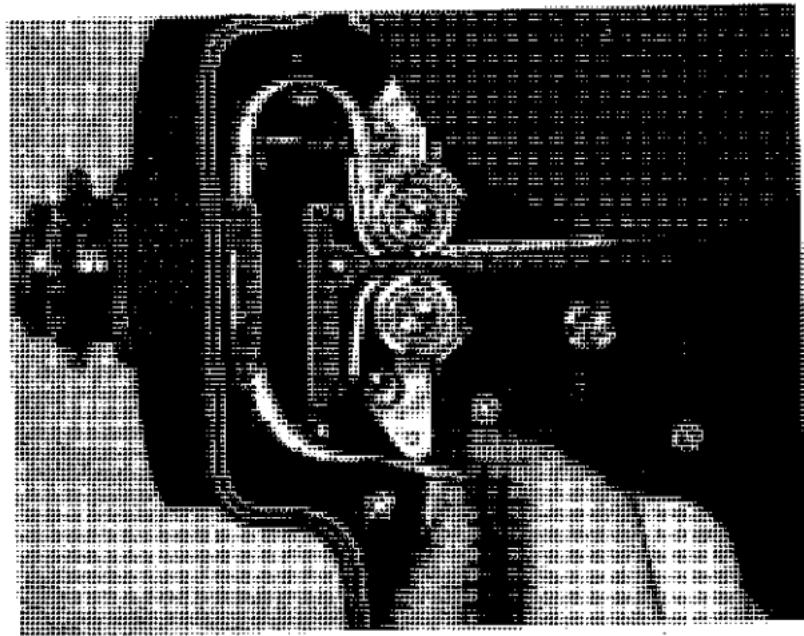

Figure 6
6. Place the leader in the film gate channel, as in Figure 6, leaving enough slack above to form the upper loop, the extreme top of which should be about  $\frac{1}{4}$  inch from the metal camera shell.